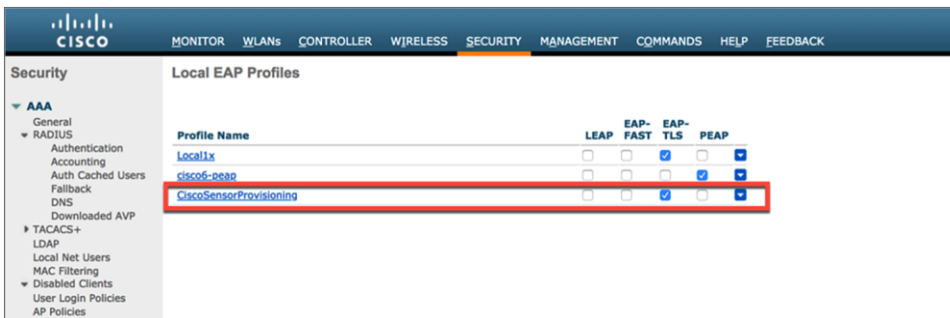

Figure 15.
- The sensor authenticates with the controller using a built-in Manufacturer Installed Certificate (MIC) with EAP-TLS (**Figure 15**); however, there is an option to use a custom certificate by defining and pushing a new backhaul profile in Cisco DNA Center.